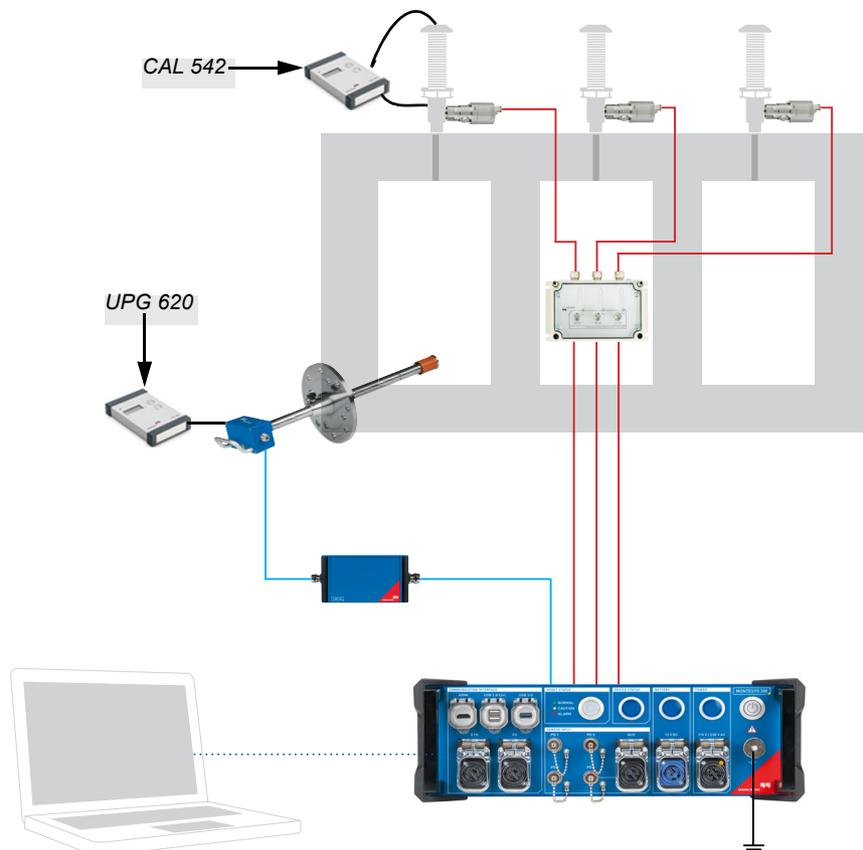

Figure 3-29: Calibration and check of performance
1. Connect a calibrator (for example, CAL 542) to one of the three phases (see Figure 3-29: "Calibration and check of performance" on page 41) by connecting one lead to the high-voltage connection on the top of the bushing and the second lead to the ground at the bushing tap. Turn the calibrator on and select a calibration value. Calibrate via software. Turn the calibrator off and remove the calibrator and the connection cables.